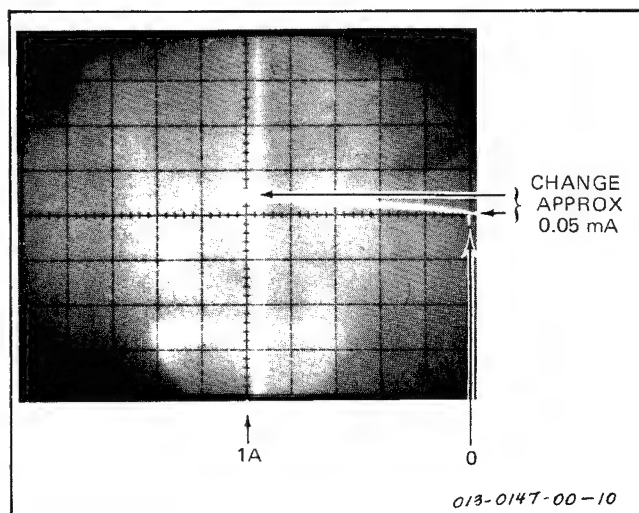

Fig. 2-13. Illustration of Example 3, part p.
p. Store the display. Measure the change in vertical deflection from 5 mA (see Fig. 2-13) to 1.0 A (five divisions from right at 200 mA/Div). Maximum current change (vertical) ≤ 0.5 mA (five divisions at .1 mA/Div).